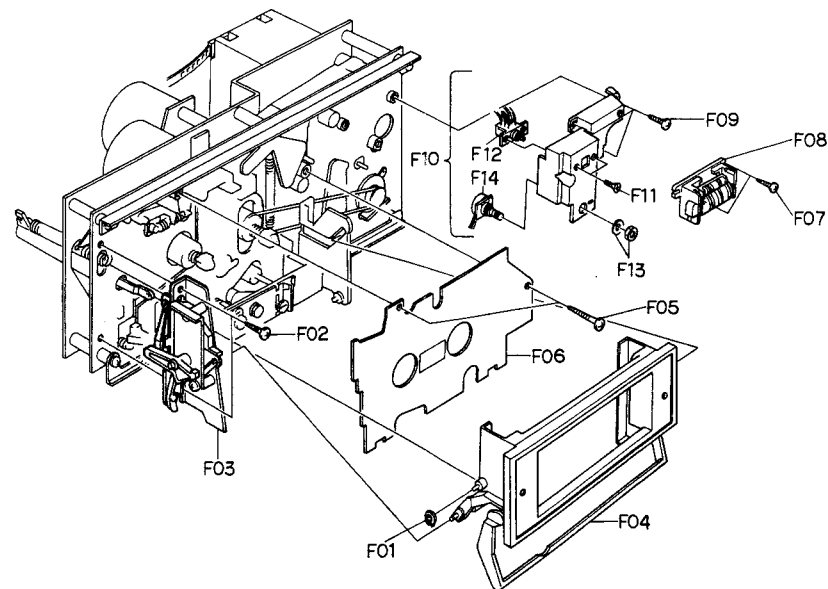

Fig. 2.6
Refer to Fig. 2.6.
- (1) Refer to Fig. 2.6. Remove Cassette Case Ass'y referring to item 2.21.
- (2) Remove F01, then disassemble F02 (Head Mount Base Ass'y).